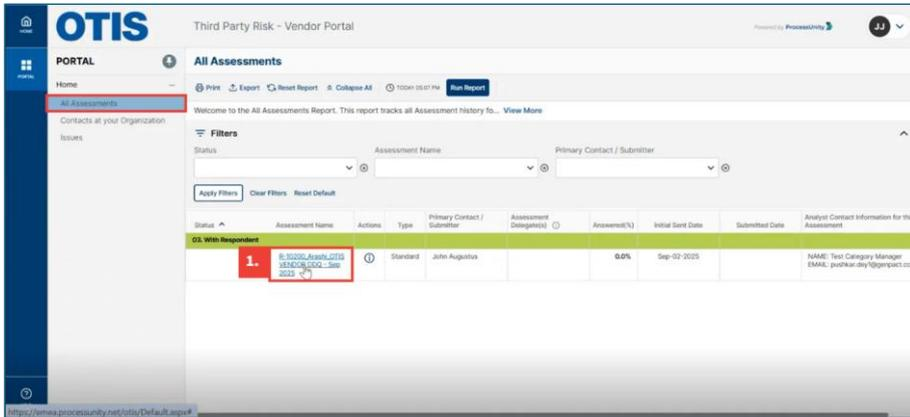

Figure 3
1. Login using the credentials provided. The dashboard lists assessments assigned to you in the **All-Assessments** tab. Click the assessment name to open the questionnaire (Refer figure 3)